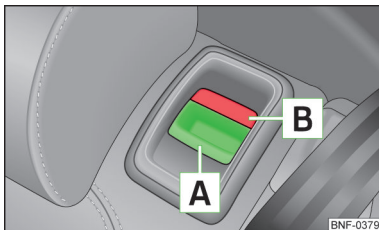

Fig. 50
- › Push the securing knob **A** » Fig. 50 and fold the seat backrest forwards.
- › Press the securing knobs **A** » Fig. 50 on both sides of the seat back, and tilt the seat back forward.
- › Make sure that the red marker **B** » Fig. 50 is hidden.
- › Make sure that the red marks **B** » Fig. 50 on both sides of the seat back are no longer visible.